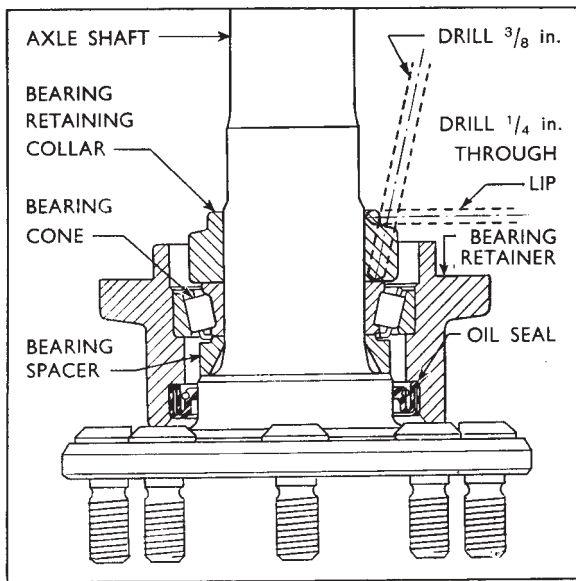

Fig. 6
- (i) Place the shaft horizontally with two of the wheel studs resting on a wood block to prevent the shaft rotating. Centre punch and drill vertically through the lip of the collar, using a $\frac{1}{8}$ in. pilot drill and a $\frac{1}{4}$ in. drill (see Fig. 6). Drill carefully and stop when the drill contacts the hardened surface of the shaft as indicated when the drill speed increases.